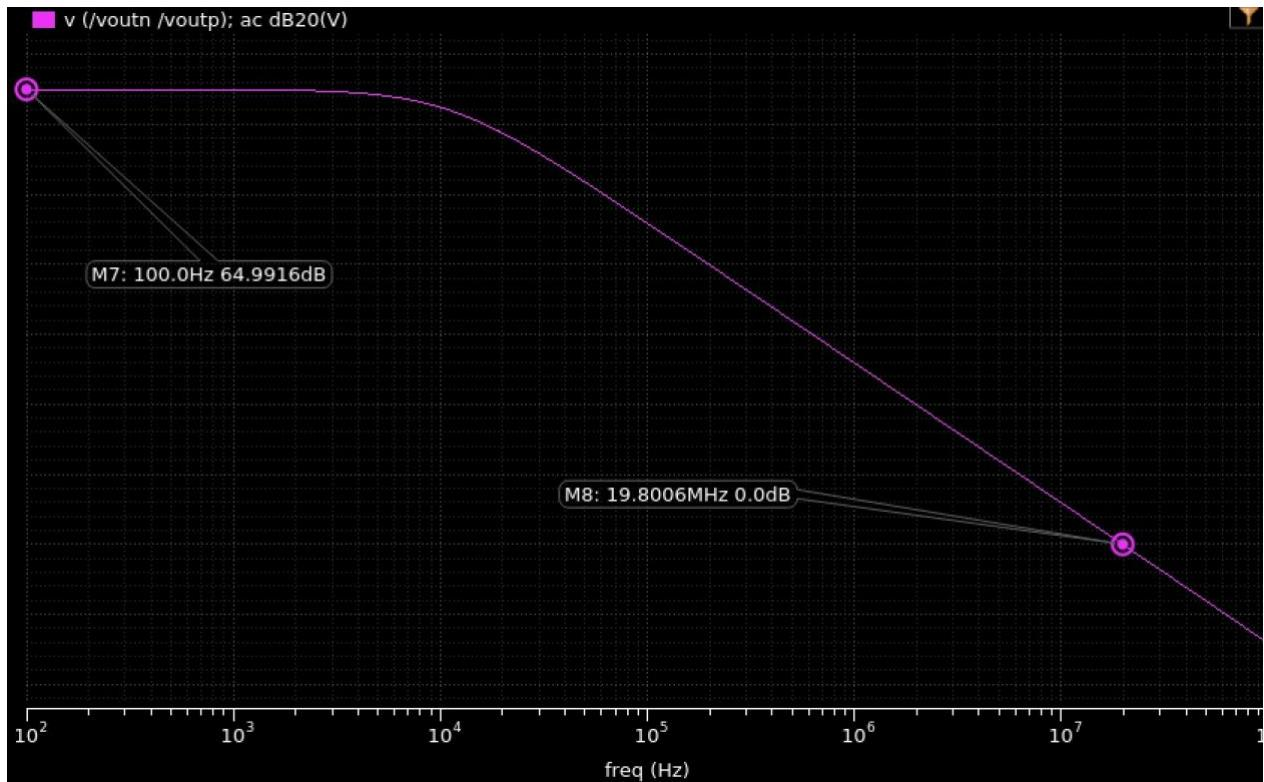

Fig. 5: Frequency response of the differential output
**Tip:** To view the simulation results, as introduced in TP1, click **Results>Direct Plot>Main Form** and select **vout** in your schematic. You can also use **Results>Direct Plot>Main Form**, the select bar should be set as differential net and the modifier should be set to 20dB, as shown in Fig. 5. After this setup you could click on the **voutp** and **voutn** to plot the differential output.